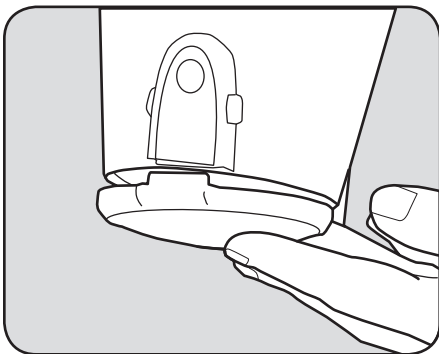

Fig. 13
4. Close the bottom of the dust cup, ensuring it locks into place. (Fig. 13) Replace the floor nozzle or crevice tool and resume vacuuming.